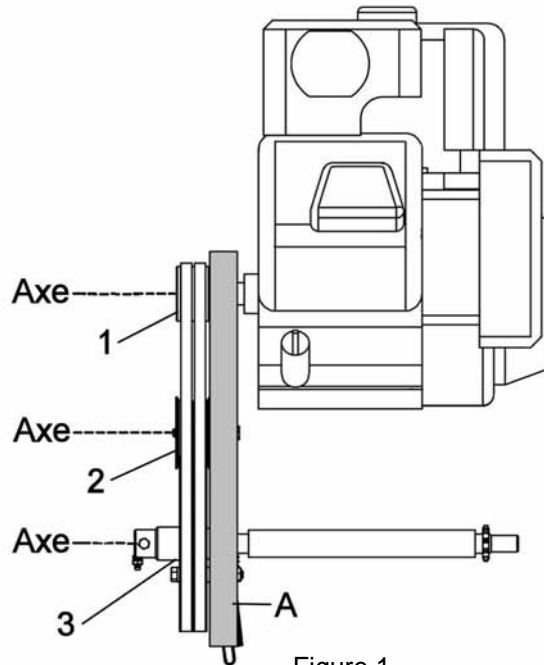

Figure 1
**No adjustments can be made on the bottom pulley (fig. 1, item 3).**
Hold a ruler (fig.1, item A) on the double pulley (item 3).